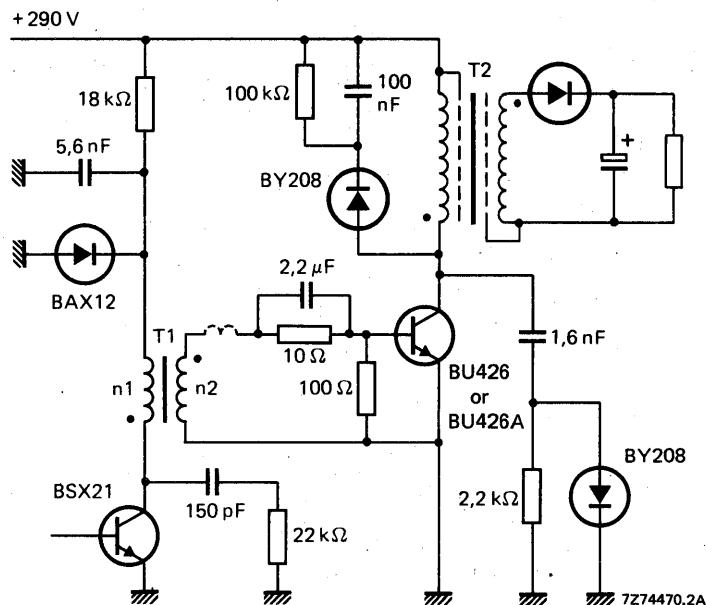

Fig. 19 Practical output circuit of a flyback SMPS of BU426 or BU426A.
All these variables influence the collector dissipation, so that a simple presentation of the design information is only possible if the information is restricted to the main application area of the relevant transistor type. Therefore, as the BU426 or BU426A will mainly be used in flyback converters and the BU433 in forward SMPS, the information of Figs 19, 20, 21 and 22, 23, 24 is based on these applications:
To ensure thermal stability minimum value of  $T_{amb}$  in this equation is 40 °C. As indicated, the BU433 will mainly be used in (non-isolated) forward converters, where the turn-off losses are limited by the maximum collector emitter voltage ( $\approx 300$ -350 V). The rate-of-rise of the voltage during turn-off must be below 1000 V/ $\mu$ s. Application of this transistor in low-power flyback converters is also possible, provided that the rate-of-rise is limited to 500 V/ $\mu$ s. For the BU426(A) a rate-of-rise of 1000 V/ $\mu$ s is permissible. Practical SMPS output circuits for an output power in the order of 180 W are given in Figs 19 and 22. At a collector current of 2,5 A and a base current of 0,25 A in these circuits the following turn-off times can be expected.